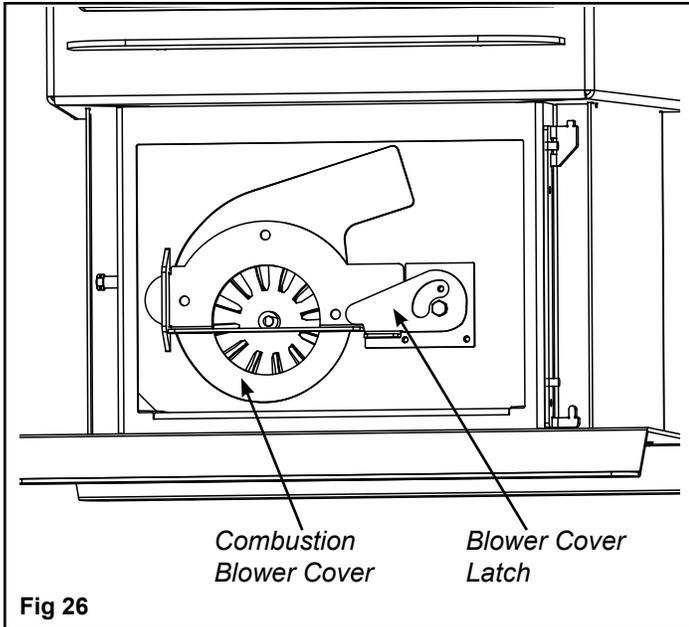
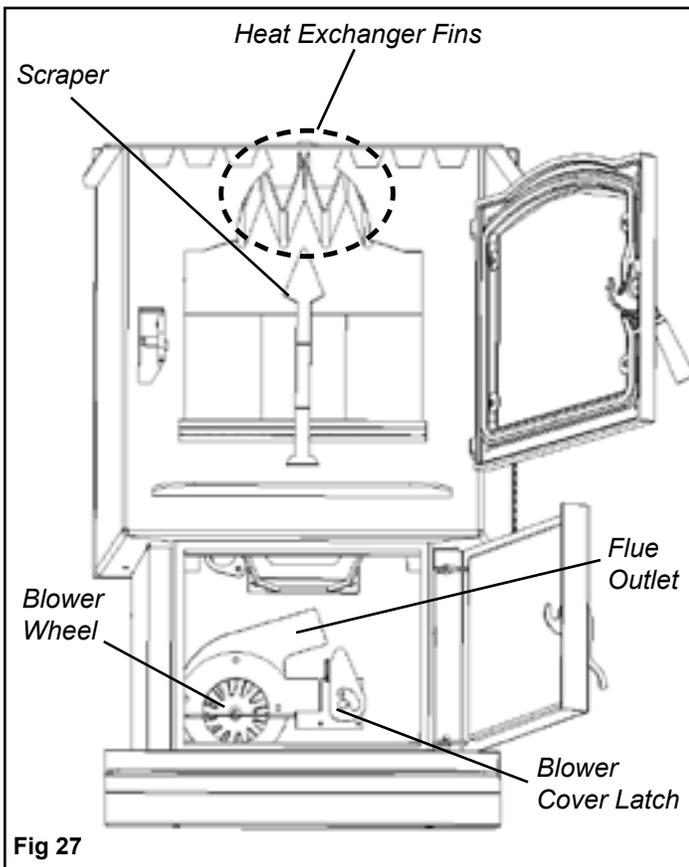

Fig 26
Fig 27
2. Clean heat exchanger with scraper as shown in fig 27.
7. Remove combustion blower cover by turning the blower cover latch vertical, see Fig.26. Sliding the cover out of the slot on the left. This will expose the combustion blower wheel and flue outlet, Fig.27.
9. Use a brush to clean the flue, being careful not to damage the ESP, see Fig. 30. The flue goes straight through into the vent pipe (Fig.27) therefore, the vent pipe can also be cleaned, to some extent, through the flue outlet.